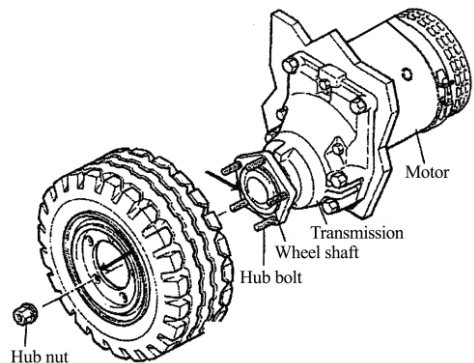

Fig.1-2
1.2.1 Removal of wheel (Fig.1-2)